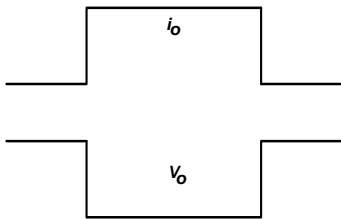
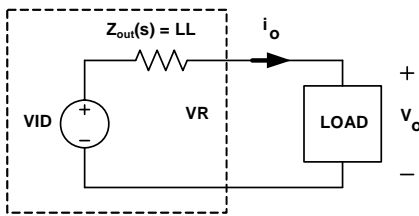

FIGURE 21. DESIRED LOAD TRANSIENT RESPONSE WAVEFORMS
FIGURE 27. VOLTAGE REGULATOR EQUIVALENT CIRCUIT
Assuming the compensator design is correct, Figure 21 shows the expected load transient response waveforms if  $C_n$  is correctly selected. When the load current  $i_{core}$  has a square change, the output voltage  $V_{core}$  also has a square response.
Figure 21 shows the desired load transient response waveforms. Figure 27 shows the equivalent circuit of a voltage regulator (VR) with the droop function. A VR is equivalent to a voltage source (= VID) and output impedance  $Z_{out}(s)$ . If  $Z_{out}(s)$  is equal to the load-line slope LL, i.e., a constant output impedance, then in the entire frequency range,  $V_o$  will have a square response when  $I_o$  has a square change.